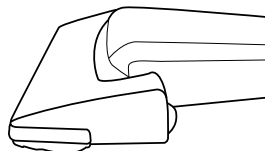

Fig. 4
4. Low position – for cleaning under furniture (Fig. 4).